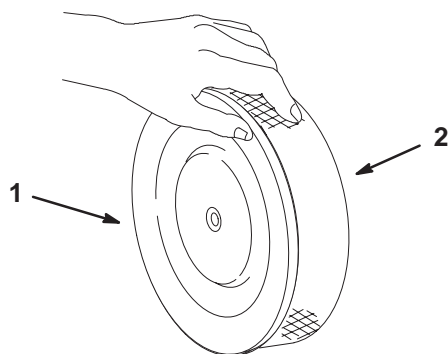

Figure 37
1. Lightly tap the element on a flat surface to remove dust and dirt (Fig. 37).